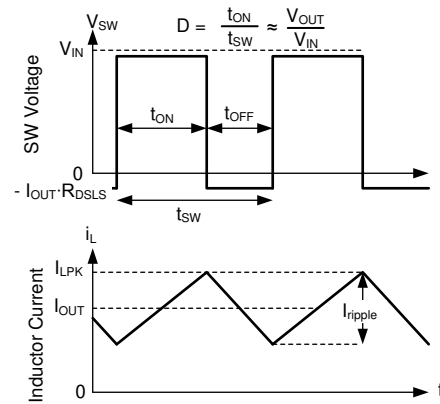

图 8-15. SW Voltage and Inductor Current Waveforms in Continuous Conduction Mode (CCM)
The following operating description of the device refers to 节 8.2 and to the waveforms in 图 8-15. In CCM, the device supplies a regulated output voltage by turning on the internal high-side (HS) and low-side (LS) NMOS switches with varying duty cycle (D). During the HS switch on time, the SW pin voltage, V_{SW} , swings up to approximately V_{IN} , and the inductor current, i_L , increases with a linear slope. The HS switch is turned off by the control logic. During the HS switch off time, t_{OFF} , the LS switch is turned on. Inductor current discharges through the LS switch, which forces the V_{SW} to swing below ground by the voltage drop across the LS switch. The converter loop adjusts the duty cycle to maintain a constant output voltage. D is defined by the on time of the HS switch over the switching period: